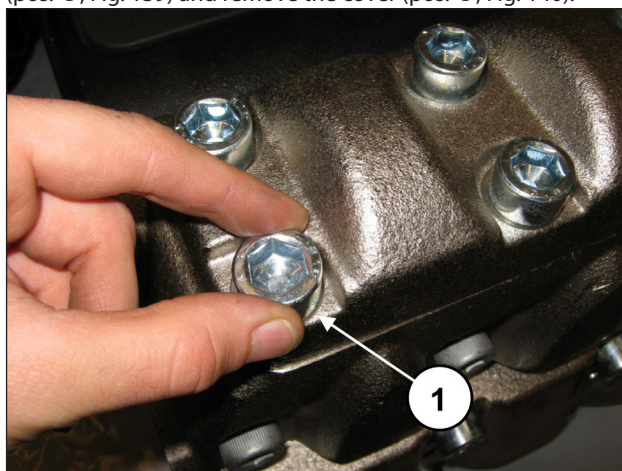
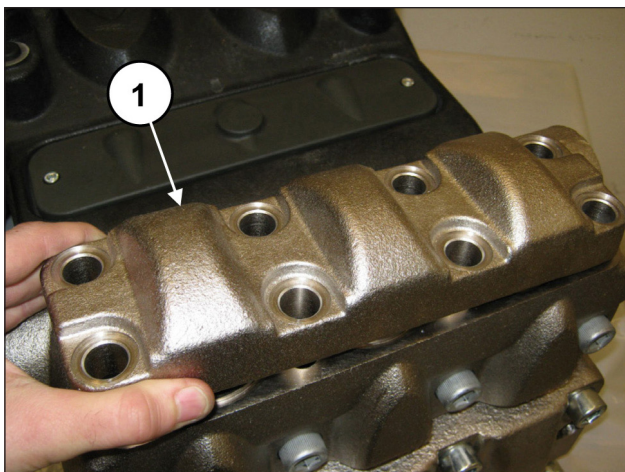

Fig. 139
Fig. 140
Unscrew the 8 M16x45 screws of the outlet valve cover (pos. ①, Fig. 139) and remove the cover (pos. ①, Fig. 140).